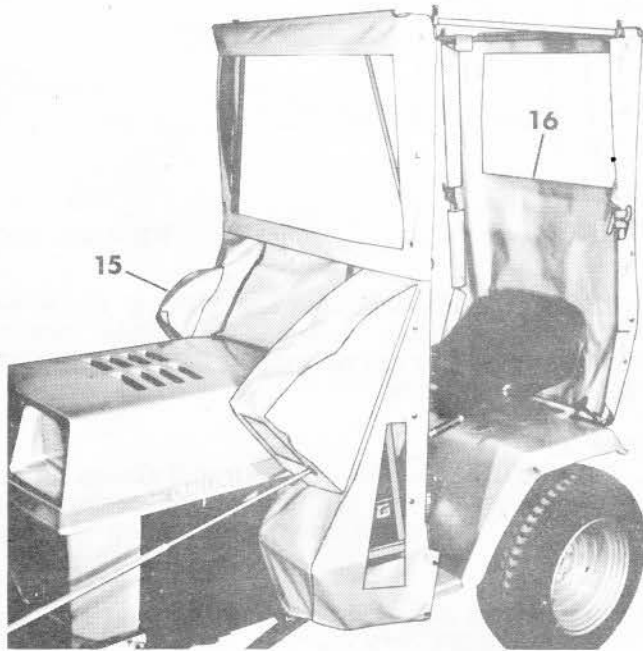

FIGURE 16
STEP 15: SEE FIGURE 16:
- B. See Figure 16, page 7: Place front panel vinyl over hood of tractor with the discharge chute control crank inserted thru the slot provided in the front panel vinyl. Then, slide PART 29 onto handle end of crank and use 5/16" x 3/4" bolt and nut to attach PART 29 to PART 9 as shown. Tighten bolt so PART 29 will allow the crank to rotate freely. RETURN TO STEP 7, PAGE 5.